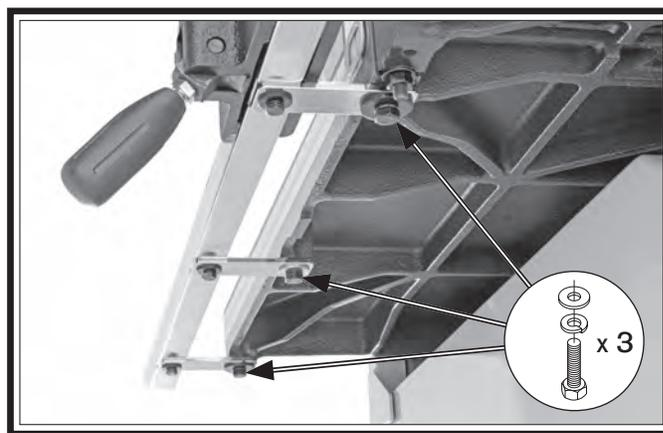

Figure 18. Fence rail installed.
1. Install fence rail on table using (3) pre-installed hex bolts, lock washers, and flat washers (see **Figure 18**).